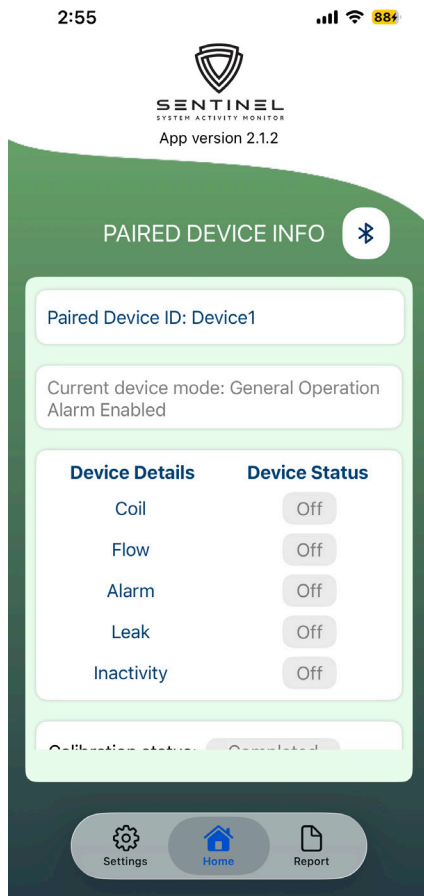

Figure 23
3. Once paired, the analyzer LED should show the Sentinel's current state of operation, if this is a new install it will be flashing magenta as calibration has not occurred. See LED table on page 17 for other LED color meanings, and you will be re-directed to the home page, as shown in figure 23.